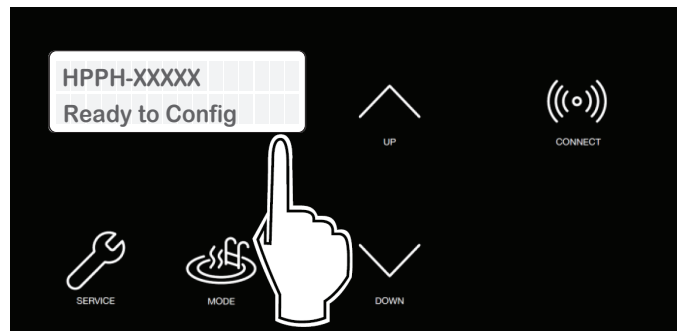

Figure 80. Wi-Fi Ready to Configure and HOTSPOT Identifier
2. The CONNECT menu displays the Wi-Fi State, indicating "Ready to Config" wireless connection, and also the HOTSPOT identifier. See **Figure 80**.